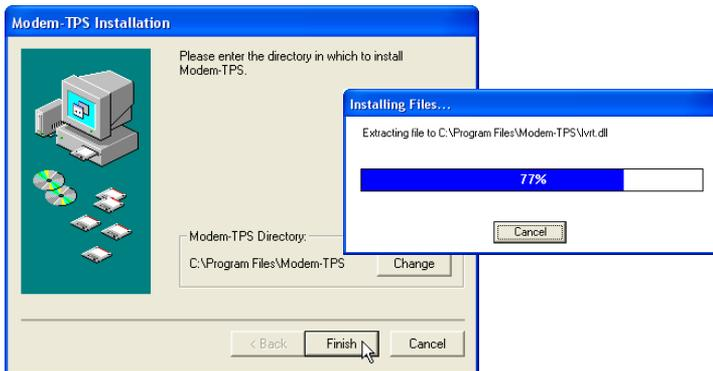

Figure 5. Select Modem-TPS Installation Location and Install
2. Keep the default installation location or select a new location. Click **Finish** (Figure 5).